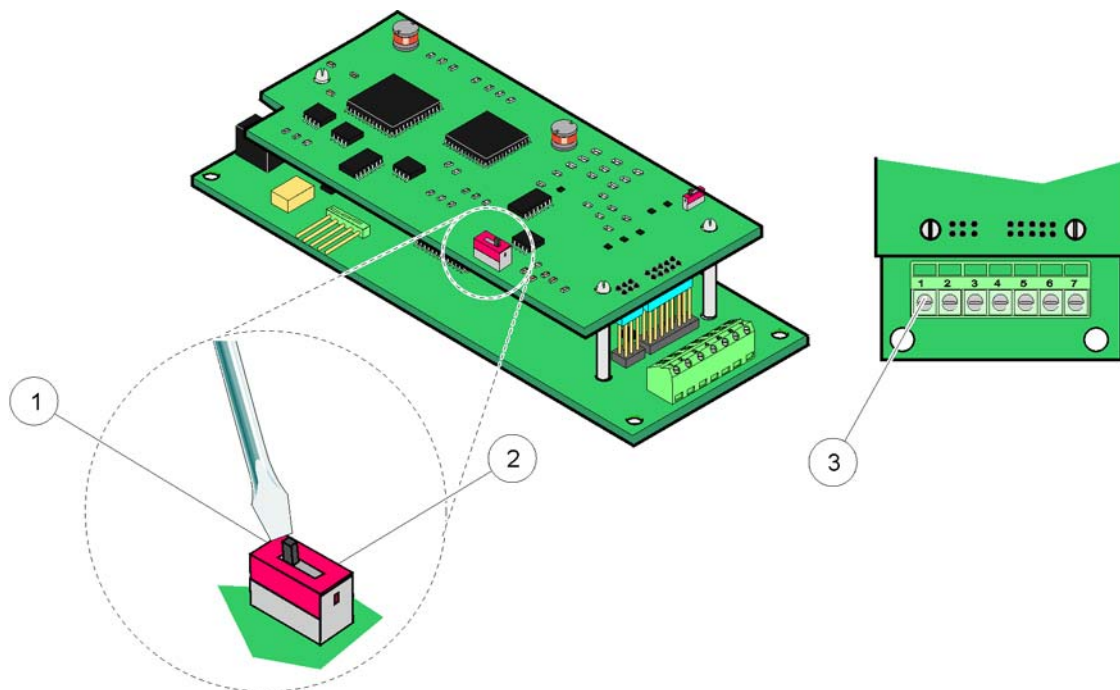

Figure 26 Profibus DP card (YAB020) connections
4. Feed the cable through the base of the module and properly prepare and insert each wire into the terminal according to Figure 26 and Table 9. Make sure that the shield is connected to a threaded spacer on the board.